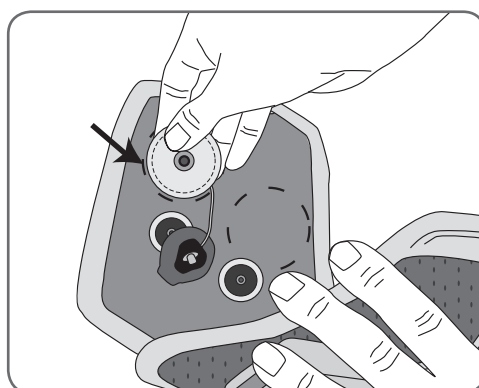

Figure 8-24. Attaching the L300 cloth electrode bases.
5. Attach the L300 cloth electrode bases to the L300 FS Cuff where the L300 hydrogel electrode bases were attached. See Figure 8-24.